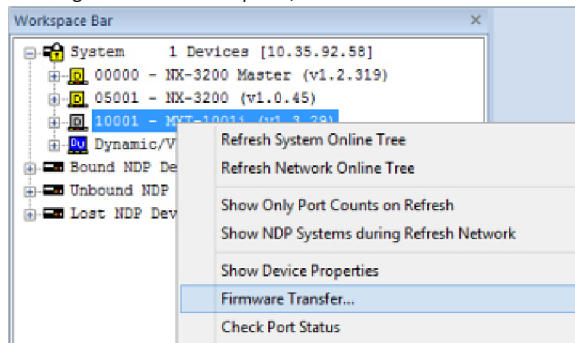

FIG. 158 NetLinx Studio Online context menu (Firmware Transfer selected) This
3. Right-Click on the G5 panel, and select **Firmware Transfer** from the context menu (FIG. 158):